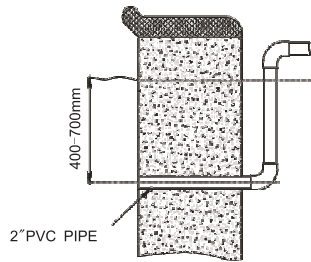

Figure 2
4. 2 "PVC pipe installation with complete swimming pool flat surface, underwater lights installed and the water surface distance between 40cm-70cm. (Figure 2)